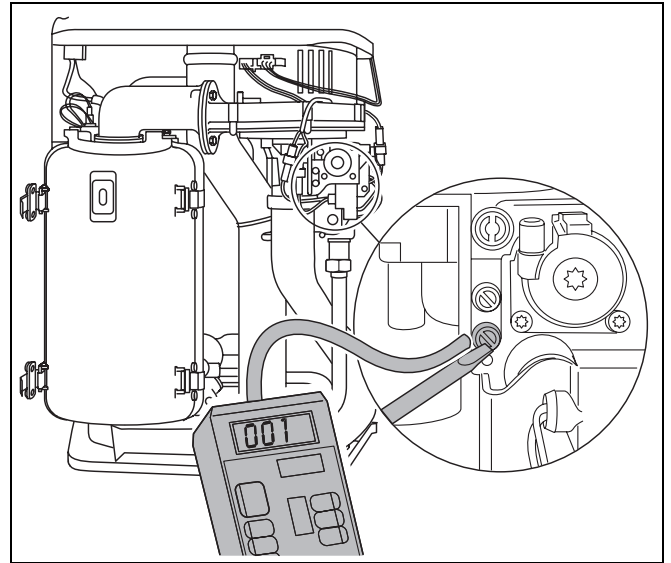

Fig. 30 Measuring the gas-supply pressure
- Attach a tube from the pressure gauge to the gas test nipple (the lower one, fig. 30).